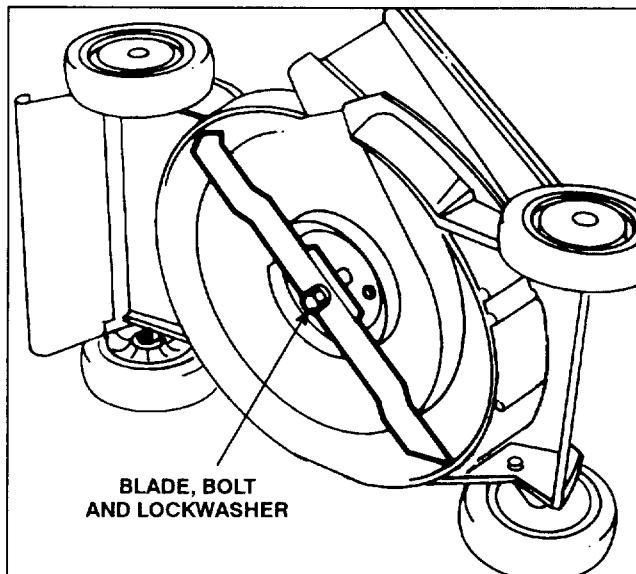

Figure 15
3. Tip mower on its left side (Fig. 15).
5. REMOVING BLADE—Grasp end of blade using a rag or thickly padded glove. Remove blade bolt, lockwasher, and blade (Fig. 15).